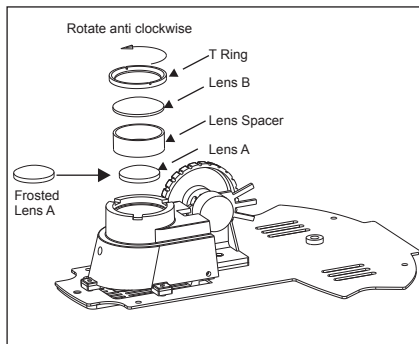

Fig. 9
4. Open the illumination assembly as in (figure 9), by rotating the T Ring. Replace the Lens B with frosted lens provided with the Koehler kit. Secure the lense assembly back.